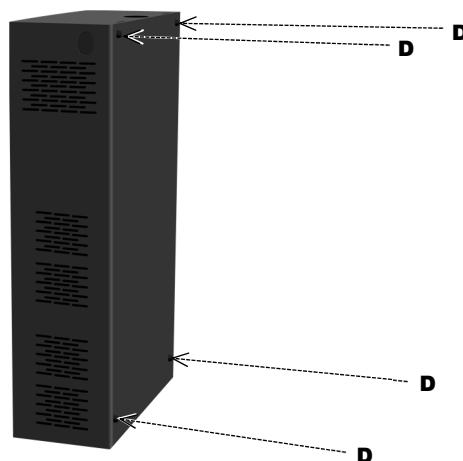

Figure 29 Rubber Bumpers
1. Four rubber bumpers are provided in the hardware kit. Install these bumpers into the rear of the battery by pushing them into the holes designated by **D** in Figure 29.